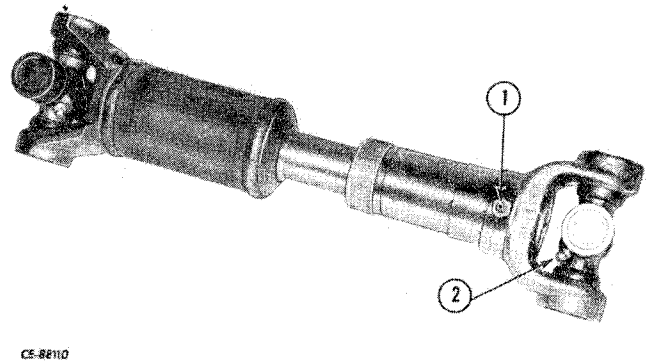

Figure 5-4
Remove grease fitting (1, Fig. 5-4) from the slip joint housing and grease fitting (2) from universal spider.
Install the grease fittings (1 and 2, Fig. 5-4) in the slip yoke and spiders.